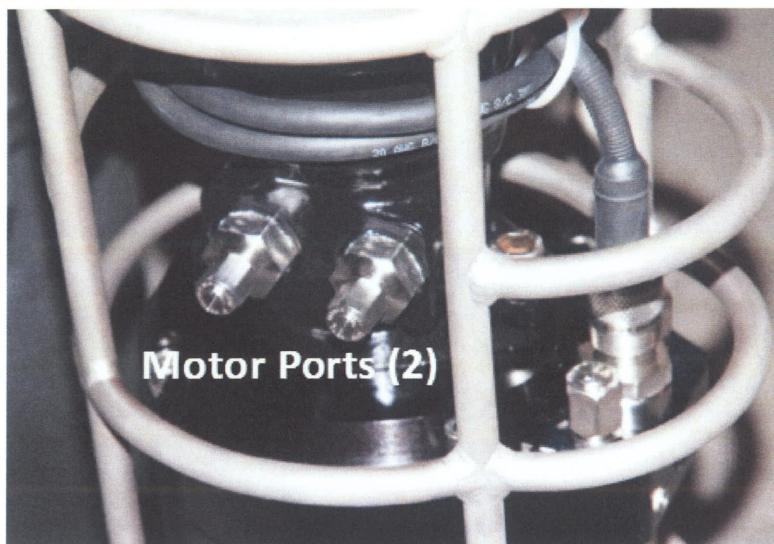

Fig. 4
1. Insert the Torque Tool into the FLT from the rear with the motor ports facing up (Fig 4).
Note: The tool has 4 hose connections (Figures 4 and 6):